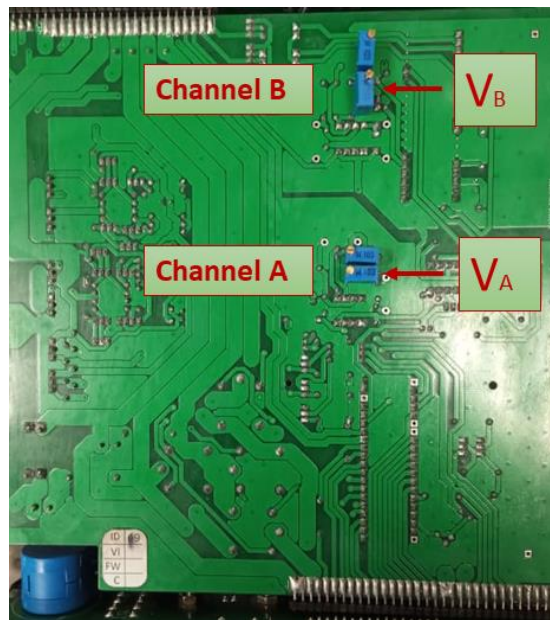

Figure 9: The positions of variable resistors of both channels for voltage calibration.
5. For tuning the voltage value, use a screwdriver to adjust the resistance of the variable resistor located on PCB of PhysWatt for Channel A, as shown in Figure 9.